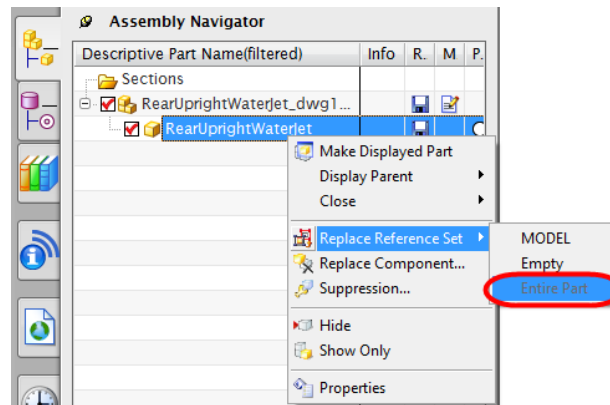

Figure 13
- c. In the drawing file, **right click** the part in the **assembly navigator** > **Replace Reference Set** > **Entire Part** (See Figure 13)